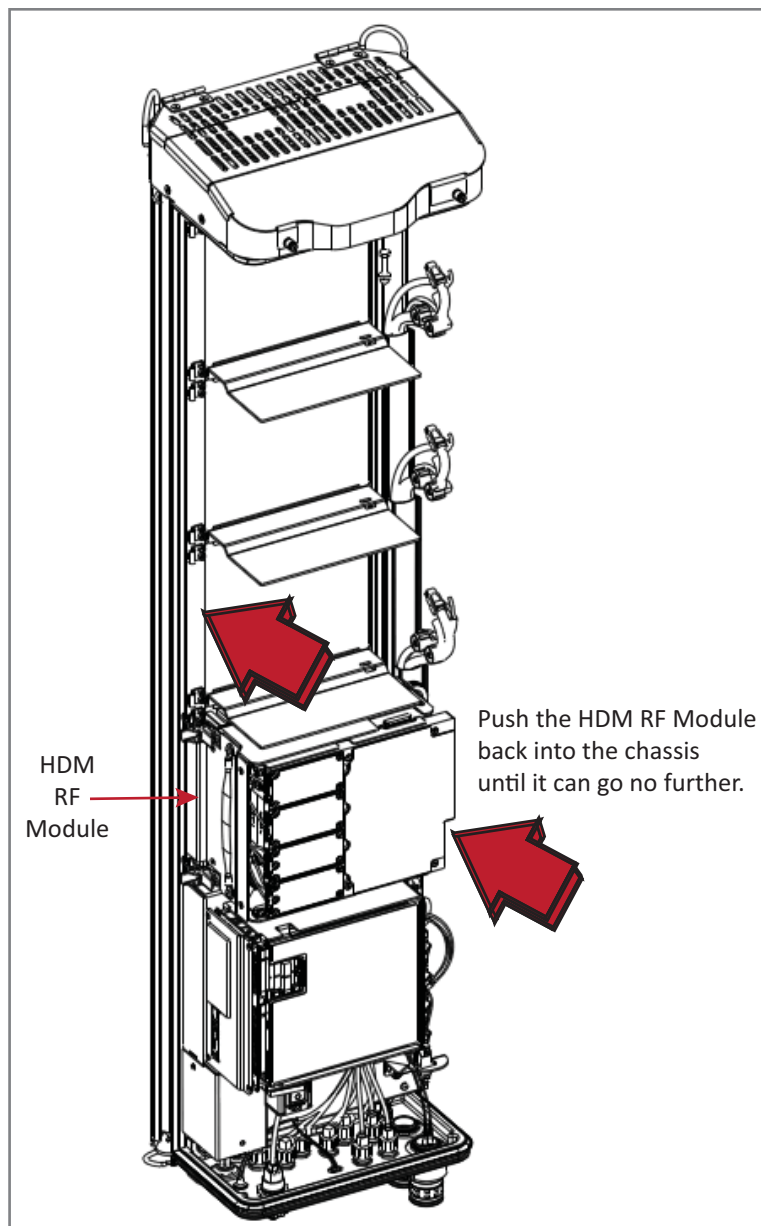

Figure 26. Seating an HDM RF Module
- For HDM RF Modules, see Figure 26 on page 96.